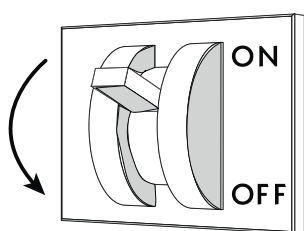

Fig. 42
- Disconnect the power supply to the cabinet using the wall-mounted main switch-disconnector ("Fig. 42").